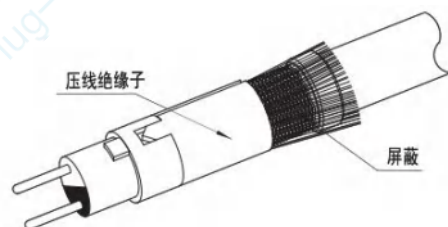

图1.11 压线套与压线绝缘子压紧
3) Push the crimp sleeve forward to achieve tight engagement with the crimp insulator, and fold the shield layer outward as shown in Figure 1.11.